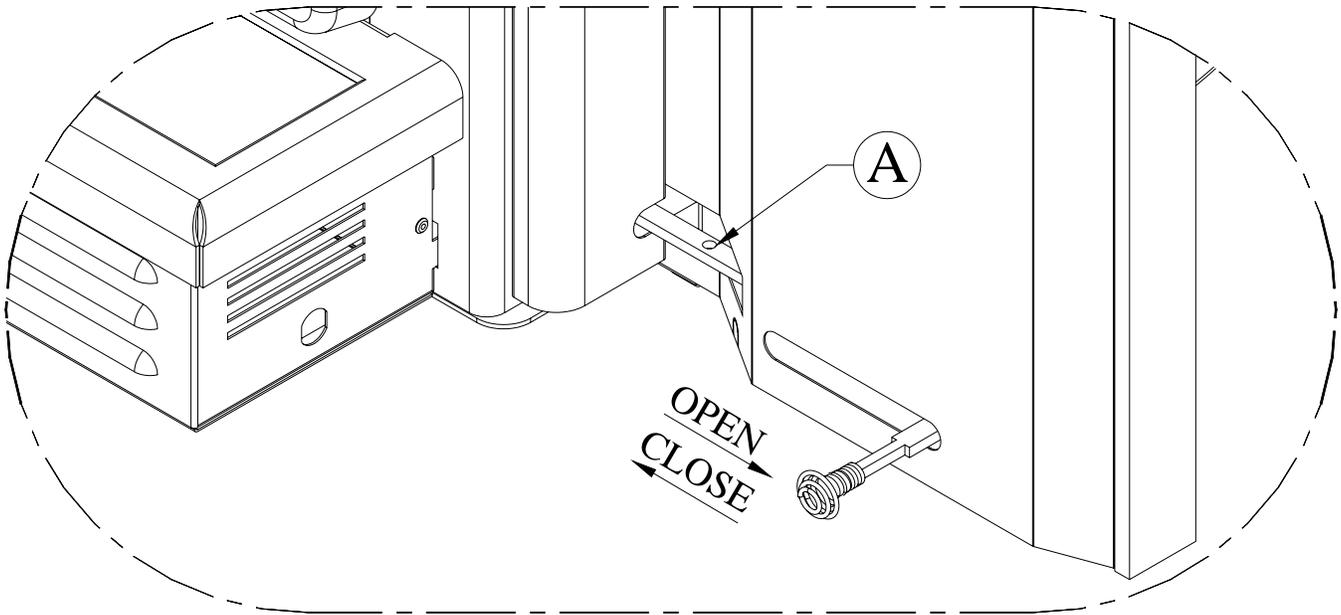

Figure 3.1
4. Open the draft control fully to the right (located on the right side of the faceplate, Figure 3.1)
If you are making a custom faceplate for your 1100 insert, you will need to block the low combustion setting by inserting a screw into the hole located on the air control rod as indicated by the letter **A** on figure 3.1.